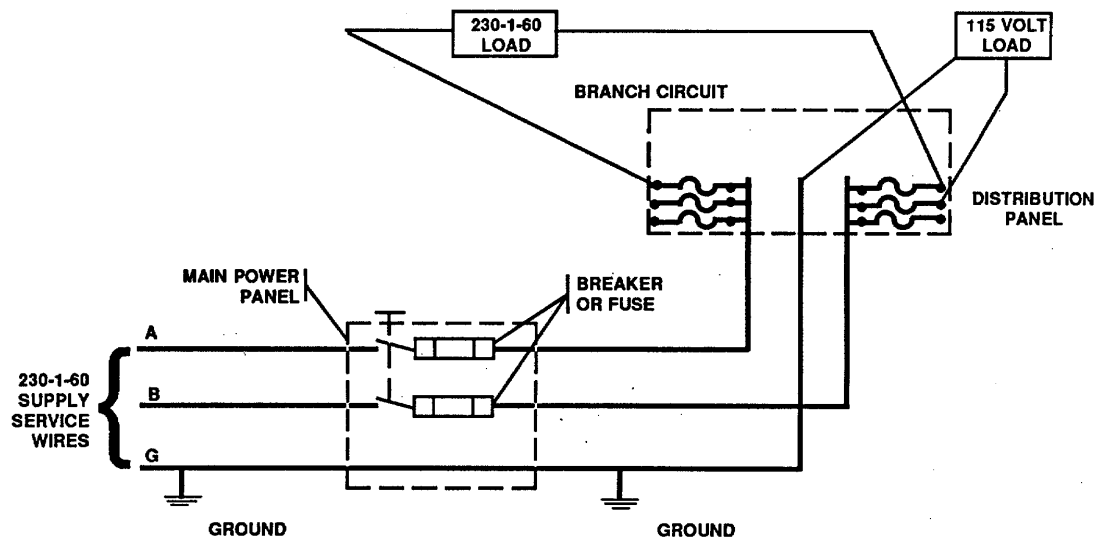

Figure 2-1. Voltage System, 115 and 230V/1 Ph/60 Hz.
- (a) FIGURE 2-1 shows power supply wires entering main electrical panel and then going to branch distribution panel or circuits.
- (b) If wires are identified in a 230/1/60 supply by A, B, and G, as in FIGURE 2-1, the voltmeter readings should be: